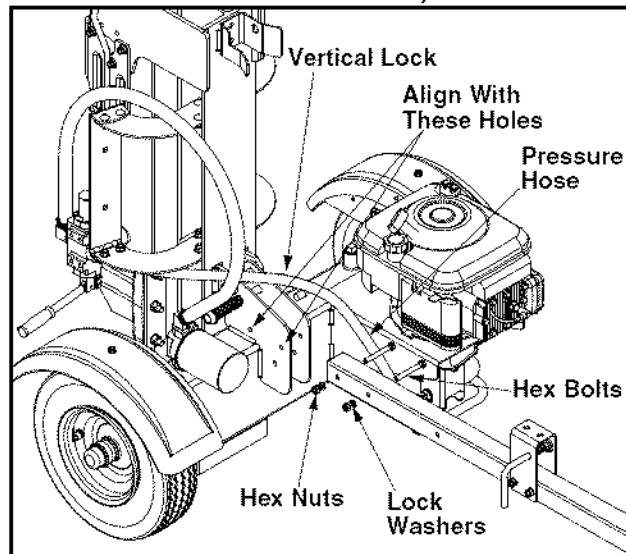
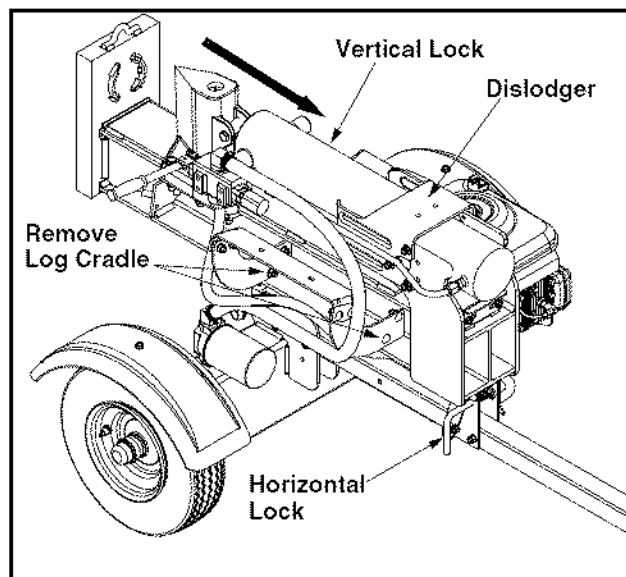

Figure 2
Figure 3
#### Attaching The Tongue (See Figure 2)
- The log splitter is shipped with the beam in the vertical position. Pull out the vertical lock rod, rotate it back, and pivot the beam to the horizontal position until it locks. See Figure 2 & Figure 3.
- Disconnect the dislodger from the beam weld bracket by removing the six hex screws and flat washers. See Figure 3.